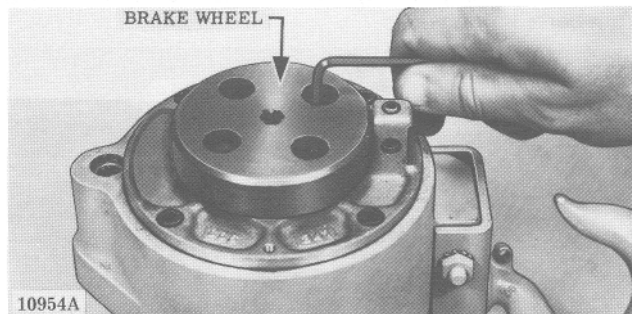

Figure 7-9. Removing Brake Wheel and Bearing Clamp Plate.
(1) Rotate brake wheel until holes in web are aligned with four socket head cap screws (Figure 7-8). Remove screws, then lift brake wheel off (Figure 7-9) after prying up lightly and evenly with screwdriver to free ball bearing. Ball bearing and clamp plate are pressed off after removing retaining ring from wheel hub.
(2) Remove four socket head screws securing gear plate to frame and lift off plate and intermediate gears as a unit (Figure 7-10). Do not remove the two socket head screws from flange around brake wheel bearing hole (Figure 7-9) unless it is necessary to replace intermediate gears.